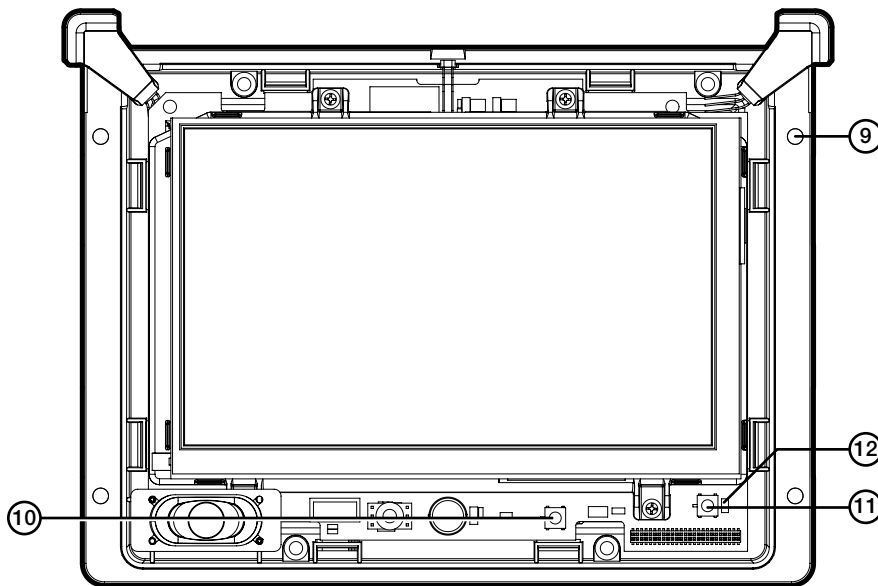

Figure 4. TLP 710MV Front Panel with the Bezel Removed
- ① **Motion sensor** — is capped with a small Fresnel lens that focuses light onto the sensor. When no motion has been detected for a user-defined period of time, the unit enters sleep mode. When motion is detected by the sensor, the screen display is restored and active.
- ② **Microphone** — is located below the LCD screen.
- ③ **Speaker** — one located under the screen, on the left side of the panel, provides audible feedback for the user.
- ④ **Programmable LEDs** — one on each top corner can be programmed to provide system feedback. They light red or green and can blink or light solid in response to user-defined events.
- ⑤ **LCD screen** — has a 800x480 resolution with a touch overlay. A graphical user interface, designed using the Extron GUI Configurator software, displays buttons, text, or icons on the screen (see page 24). These are configured for a range of user-defined functions, using the Extron Global Configurator software (see page 29).
- ⑥ **Connection status LED** — is unlit during normal operation. Blinks red if the connection to the IP Link controller is lost.
- ⑦ **Bezel** — removable with Extron removal tool (provided). Clips fit into attachment points on the front panel (see figure 4 below) and snap into place.